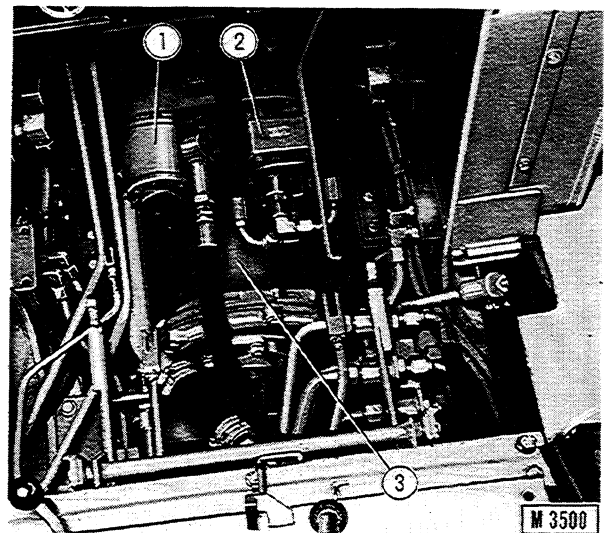

Fig. 2-1. Top view of converter-gearbox unit.
- lift out engine-converter-gearbox unit as shown in fig.2-1.